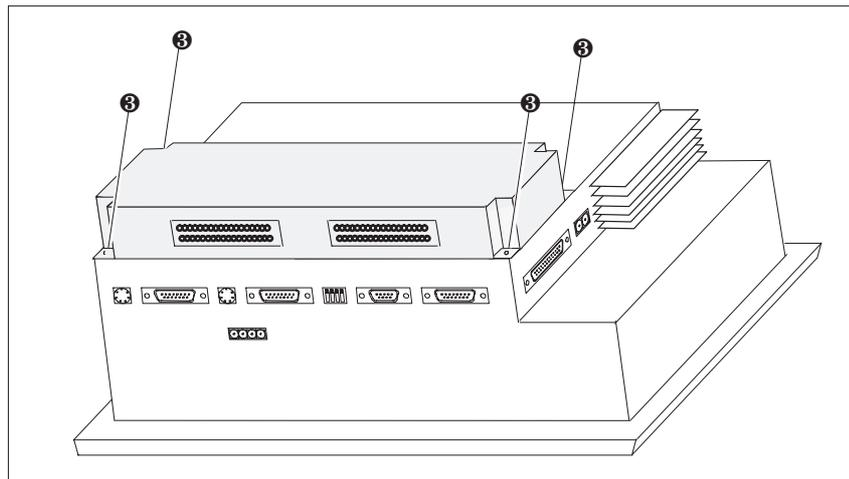

Figure 17-7 Securing the control panel interface (example: TP37)
4. Secure the control panel interface to the Touch Panel with the four screws enclosed  (illustrated in an example of the TP37 in figure 17-7).